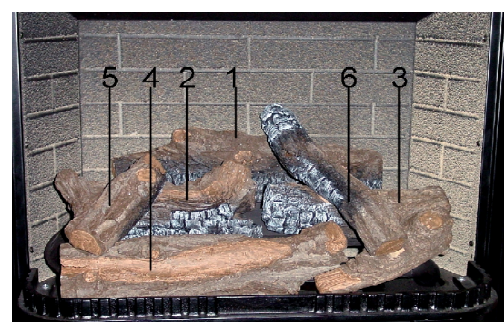

Figure 8
- Insert the pinhole in the upper part of log 4 into the pin on the left side of log 1. Place the lower part on the flat roof at the left side of log 3 (Figure 8).
- Insert the pinhole in the upper side of log 5 into the pin on the right side of log 1. Place the lower part on the flat roof at the right side of log 4(Figure 8).